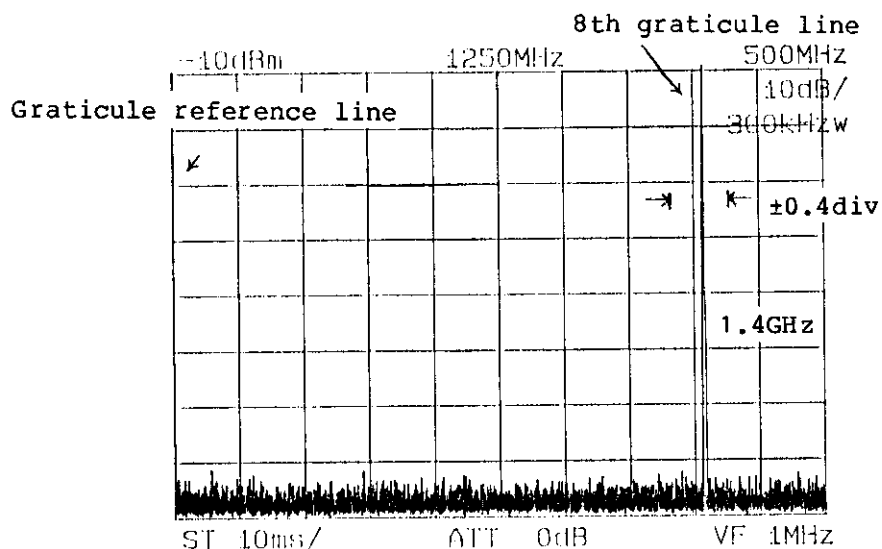

Figure 11-3 Frequency Span 500 MHz Test
- ⑧ Set the output of TR4511 synthesized signal source to -10 dBm, 1 GHz modulation off.
- ⑨ Turning the TUNING dial, adjust the 1 GHz input signal to the leftmost graticule on the display screen.
- ⑩ Set the output frequency of the TR4511 synthesized signal source to 1.4 GHz. Check that the signal is positioned on the eighth graticule from the leftmost graticule on the display screen (or within  $\pm 0.4$  division of the eighth graticule). (See Figure 11-3.)